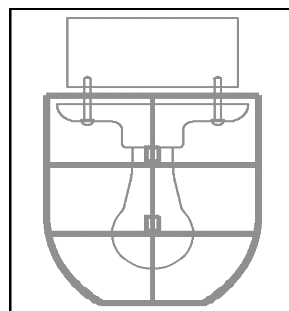

Figure 3
5. Clasp both halves of the LightCage together until you feel or hear a “snap” and the two halves are flush together everywhere (you can use a pliers or other gripping tool if necessary), (see figure 3).